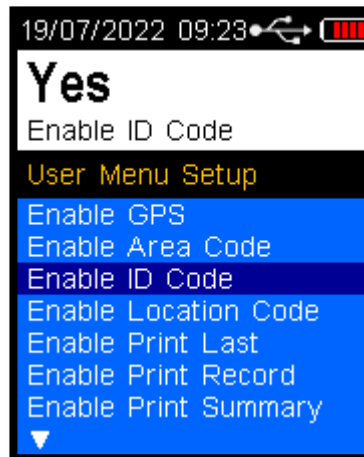

Figure 49 ID Code
- Press the down button and scroll to ID Code (Refer Figure 49).